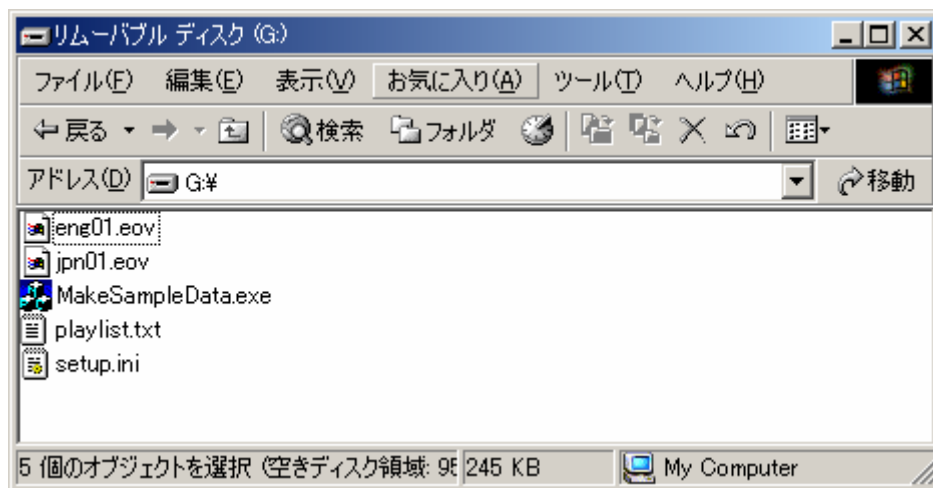

Fig. 3-3 After running MakeSampleData.exe
4. Enter the “KEYCODE” provided by our company into the KEYCODE input box in the dialog box. Click the OK button. Sample voice data (jpn01.eov, eng02.eov), playlist (playlist.txt), and initial settings files (setup.ini) will be created in the root directory on the microSD card, as shown in Fig. 3-3.